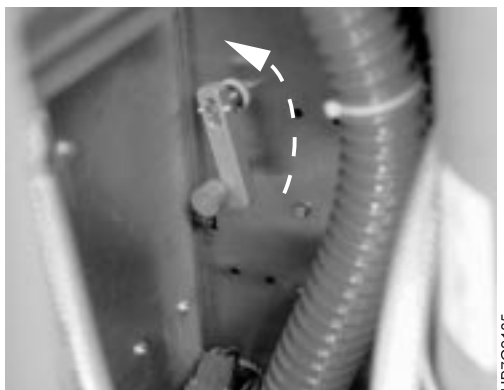

Figure 283. Rotating the Backup Roll Pressure Handle Clockwise
- 14** If you found the backup roll pressure handle inside the right fixed tower door, restore the backup roll pressure to the torque roll by rotating the handle clockwise, as shown in Figure 283. Otherwise, continue with step 15.